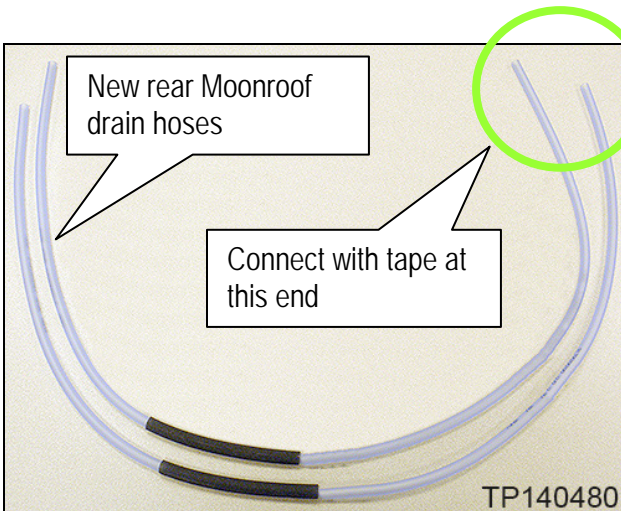
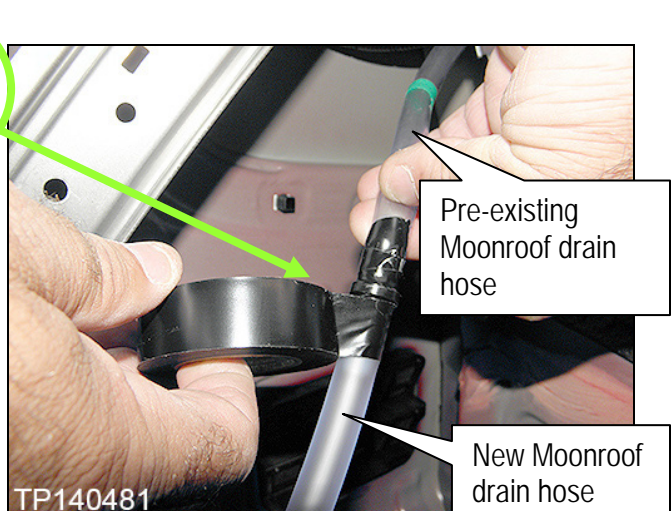

Figure 6
Figure 7
9. Tape a new rear Moonroof drain hose (Figure 6), from the Parts Information table, to the trunk end of the left and then right side Moonroof drain hoses as shown in Figure 7.